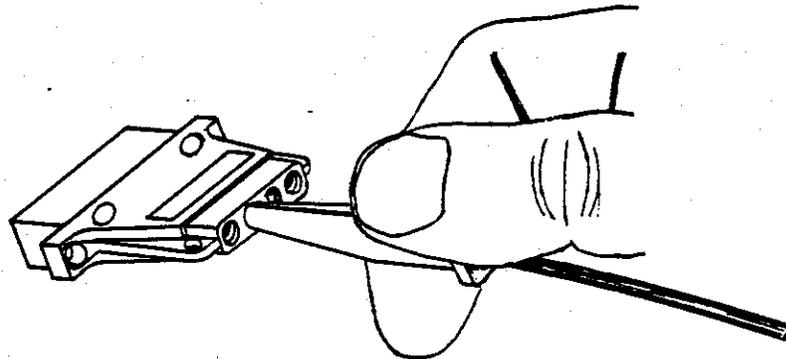

Figure 5-6. Pulling Contact/Cable Assembly Out of Connector
5. Hold the cable tightly against the tool and pull the cable/contact assembly, together with the tool, out of the connector (Figure 5-6).